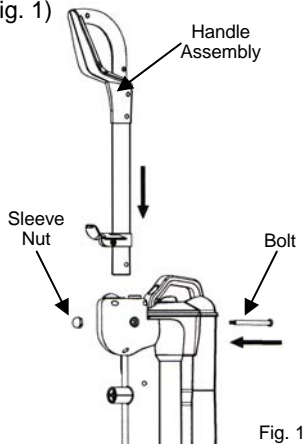

Fig. 1
1. Insert the handle into the hole on the top of the unit. Make sure that the slot in the handle fits correctly into the opening. (Fig. 1)
2. Insert the sleeve nut into the unit first. Then holding the sleeve nut with your thumb, insert the bolt. Using a flat screw driver or the edge of a coin, secure the bolt to the sleeve nut. (Fig. 1)